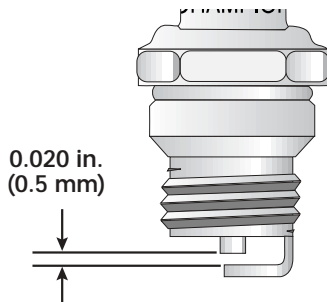

Fig. 42
3. Replace a cracked, fouled or dirty spark plug. Set the air gap at **0.020 in. (0.5 mm)** using a feeler gauge (Fig. 42).